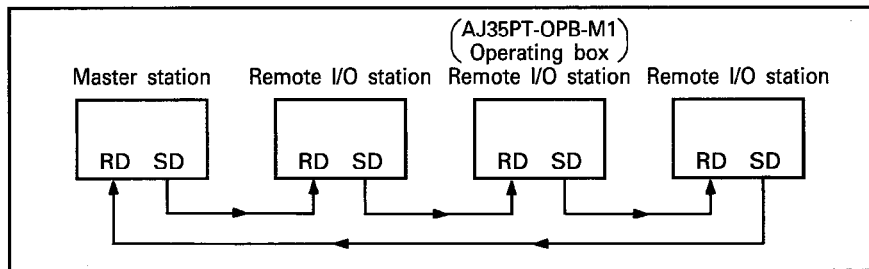

Fig. 3.9 Connection of Optical Fiber Cables
- (1) Connect the optical fiber cables as shown in Fig. 3.9.